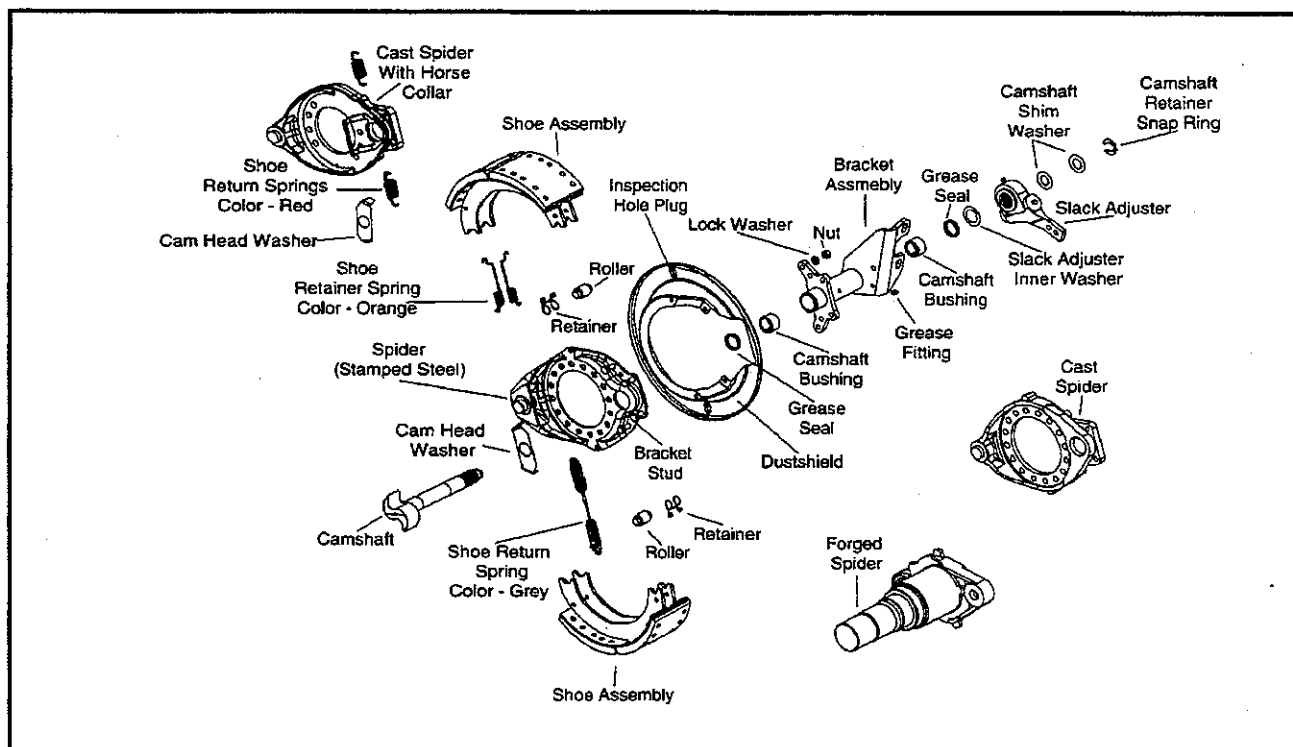

Figure 11—Brake Assembly
- See Figure 11—Brake Assembly